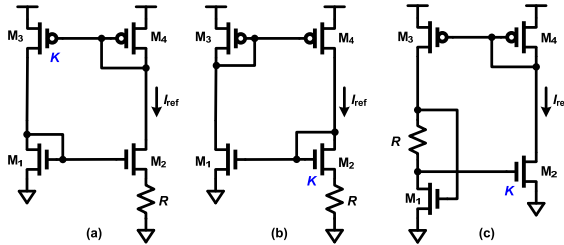

Figure 1
**Problem 1:** The beta-multiplier references (BMR) are used for constant- $g_m$  biasing, where the goal is to stabilize the transconductance of a transistor. For example, in Fig. 1 (a), the  $g_m$  of M1 will be 'copied' to a current mirror device (not shown here).
- Derive expressions for  $I_{ref}$ ,  $V_{GS1}$  and  $g_{m1}$  in Fig. 1 (a). Note that M3 is  $K$  times wider than M4 and M1 and M2 are the same size. Draw the schematic for a start-up circuit for this BMR.
- Will the circuit shown in Fig. 1 (b) work as a constant- $g_m$  reference? Explain.
- Fig. 1 (c) shows a fix for the body effect problem in the bottom NMOS in the BMR. Derive an equation for  $I_{ref}$  in this circuit. Run a temperature sweep on  $I_{ref}$  and compare it with the results from the BMR seen in class. Explain your observations.